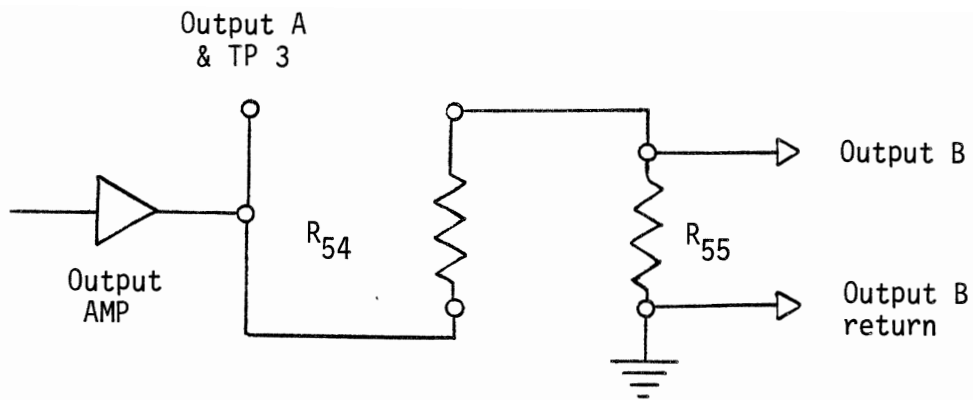

Figure 2-3. Resistors R54, R55 Schematic Arrangement.
B. Referring to Figure 2-3, R54 and R55 (damping resistor) terminals are arranged schematically as follows: